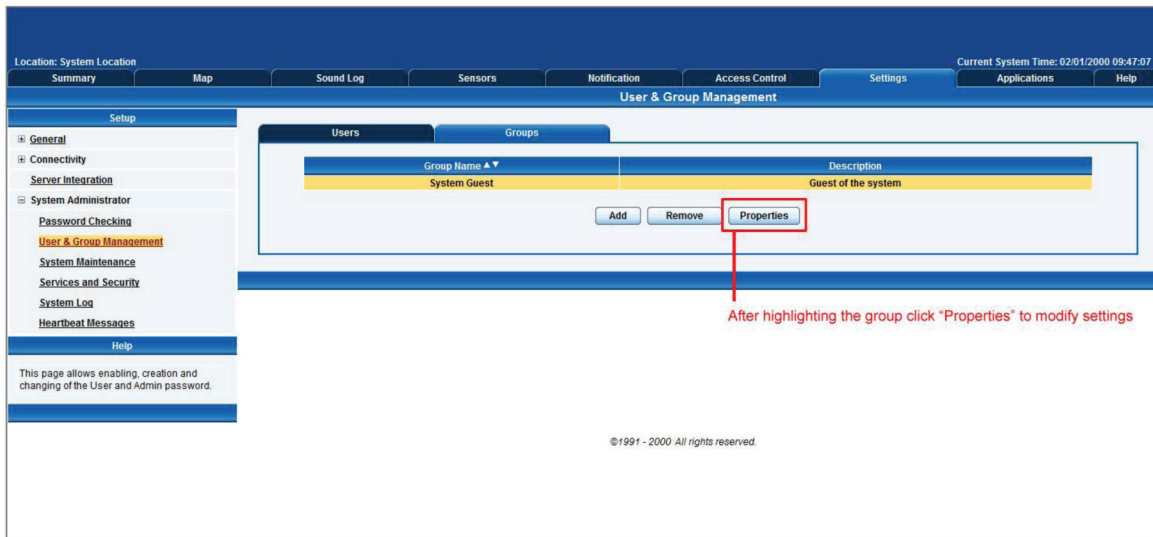

Figure 3-17. User & Group Management screen.
8. If you want to modify your group settings, click on the group you want to modify. Then click on the "Properties" button as shown in Figure 3-17.